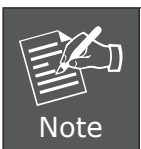

Figure 7-3: Web Main Screen of Industrial Managed Switch
3. After entering the password, the main screen appears as shown in Figure 7-3.